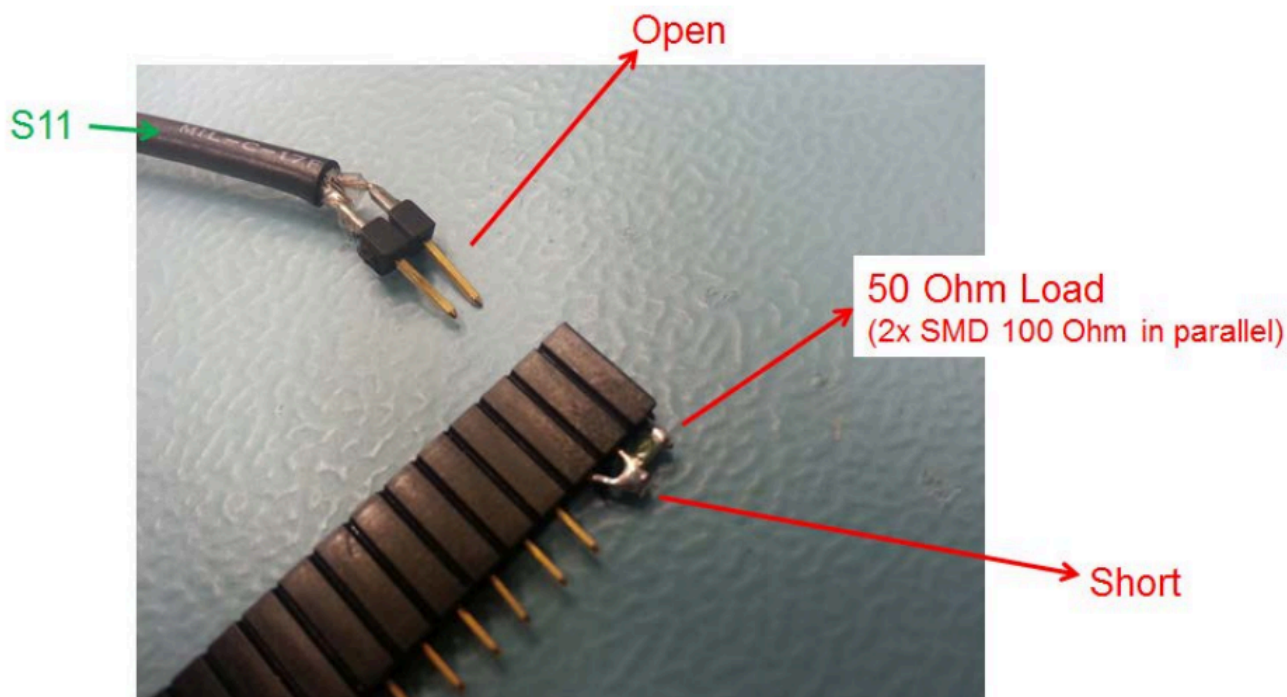

Figure 6. "Pin header" probe + calibration kit
- Use, for example, the "pin header" probe and calibration kit as shown in Figure 6.